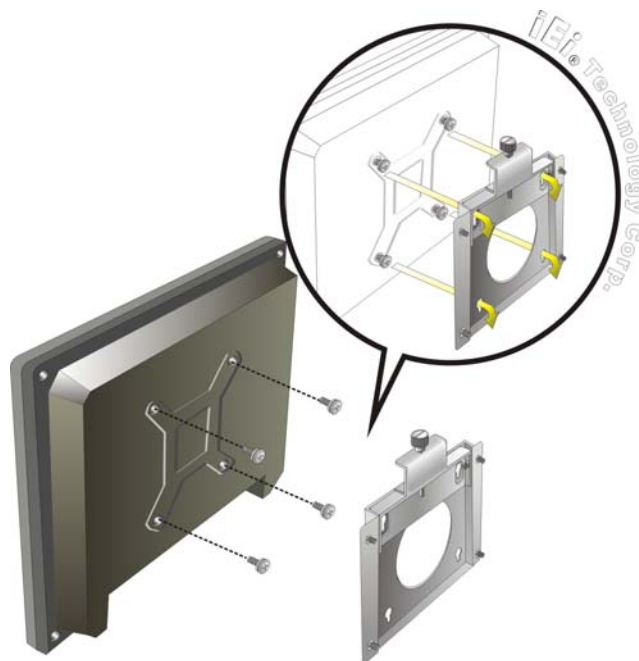

Figure 2-11: Chassis Support Screws
- Step 6:** Insert the four monitor mounting screws provided in the wall mounting kit into the four screw holes on the rear panel of the panel PC and tighten until the screw shank is secured against the rear panel (**Figure 2-11**).
- Step 8:** Carefully insert the screws through the holes and gently pull the monitor downwards until the monitor rests securely in the slotted holes (**Figure 2-11**). Ensure that all four of the mounting screws fit snugly into their respective slotted holes.